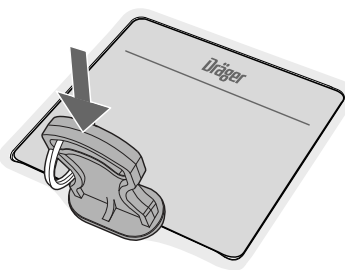

Fig. 41 Removing the power pack
1. Insert and press down the removal key (Fig. 41).